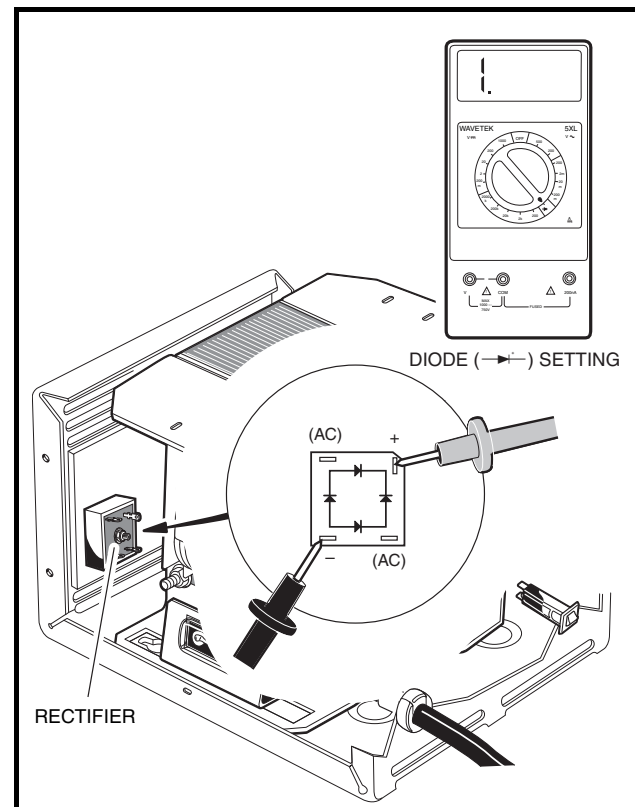

Figure 5-13 Rectifier Test – Probes Reversed
5. Using a multimeter set to the diode test function ($\rightarrow|$), place the black (–) probe of the multimeter on the negative (–) terminal of the rectifier. Move the positive (+) probe to each of the remaining three rectifier terminals and note the readings (**Figure 5-13, Page 5-16**). The multimeter should indicate an overload (no continuity) for all three of the remaining rectifier terminals. If any other reading is indicated, the rectifier has failed and must be replaced.